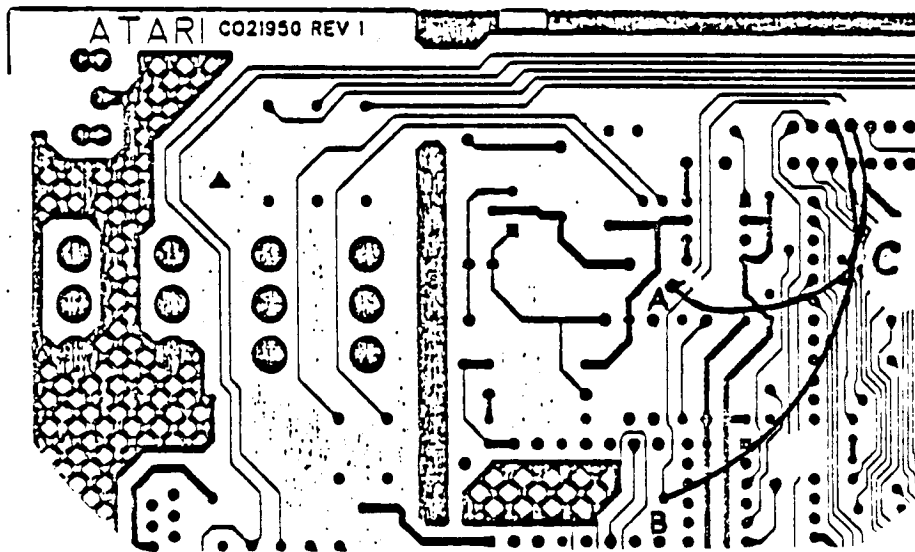

Figure 2. Jumper Wire Placement
2. Wrap one end of the jumper wire around Pin 15 of J1, and attach the other end of the wire to the feed-thru identified as A in Figure 2 (below R9).
3. Wrap one end of another jumper wire around Pin 16 of J1, and attach the other end of the wire to the feed-thru identified as B in Figure 2 (near the ends of C12 and R14).
4. Use a non-conductive material and tack the jumper wires to the board. Tack the wires at locations identified as C in Figure 2.